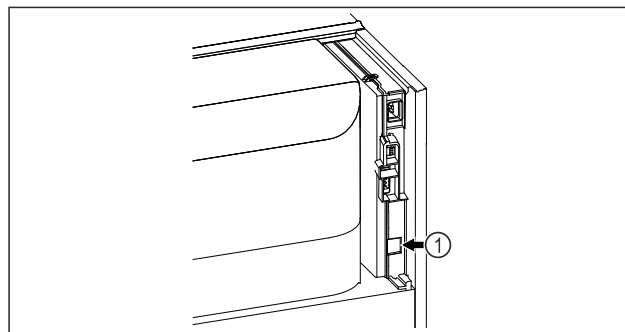

Fig. 171
- SmartModule Fig. 171 (1) is in use.